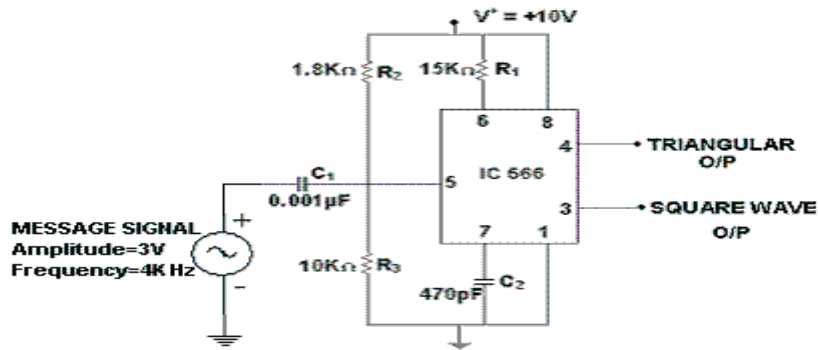
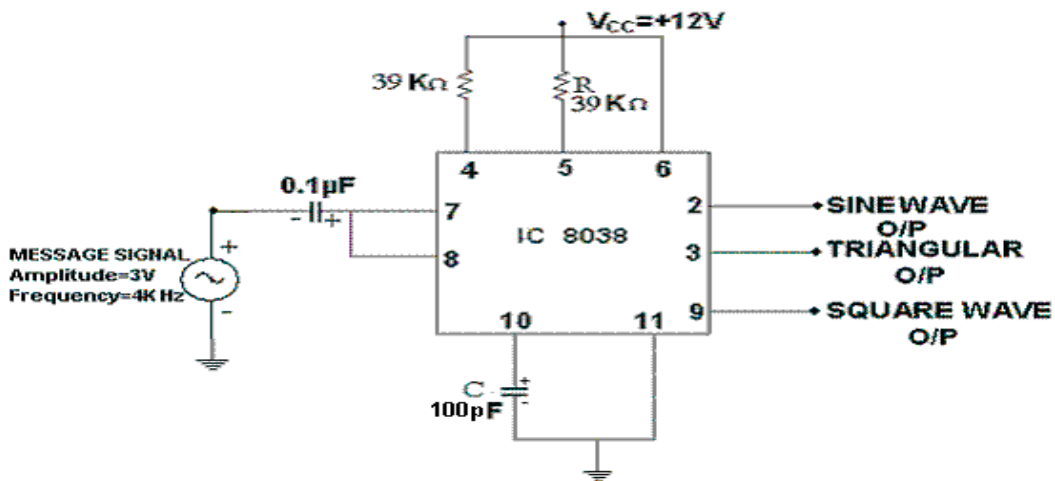

Fig.1. FM Modulator Using IC 566
Fig.2. FM Modulator Circuit
1. The circuit is connected as per the circuit diagram shown in Fig.2(Fig.1 for IC 566)